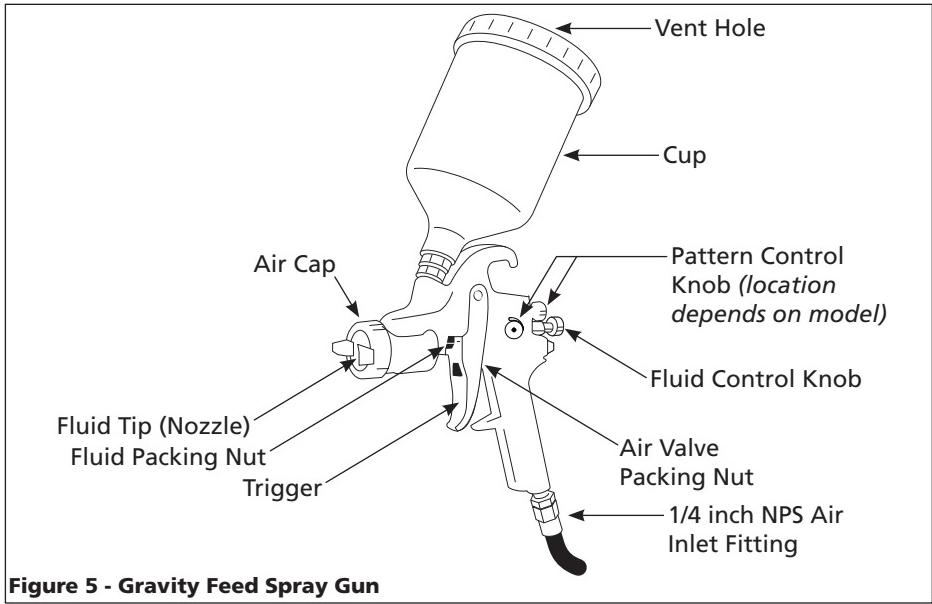

Figure 5 - Gravity Feed Spray Gun
5. Unscrew packing nuts and replace the packing ONLY if a leak will not stop when the nut is tightened (See Figure 5). Do not over-tighten a packing nut because this will restrict movement of the needle.